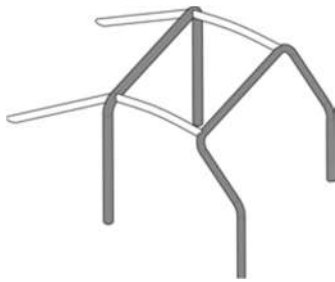

Fig. 7A
- 1 main arch, 1 front arch, the 2nd longitudinal elements, the 2nd rear props (fig. 7A);